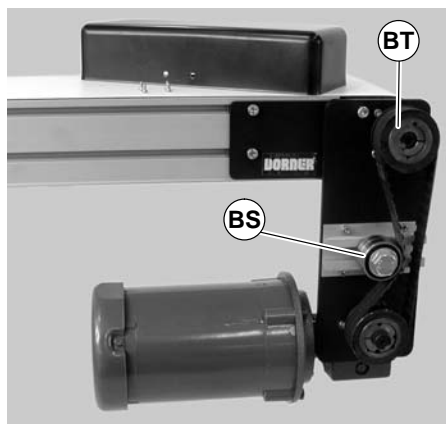
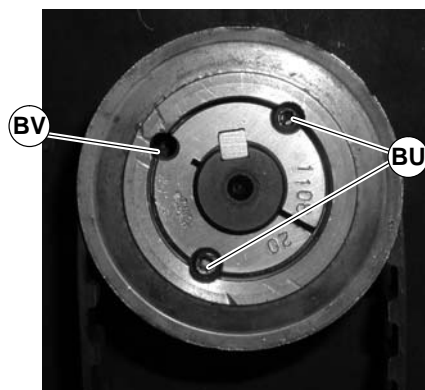

Figure 60
Figure 61
- 3) Loosen tensioner (BS of Figure 60).
- 4) Remove taper-lock screws (BU of Figure 61) on the driven pulley (BT of Figure 60). Insert one (1) of taper lock screws (BU of Figure 61) in remaing hole (BV). Tighten screw (BU) until pulley is loose. Remove pulley, taper hub assembly and timing belt.